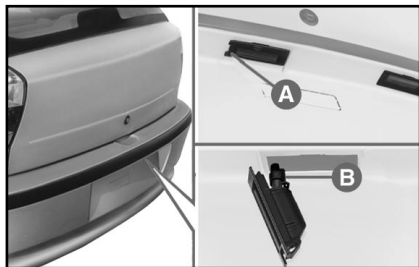

fig. 27
NUMBER PLATE LIGHT fig. 27
1) Remove the bulb holder by levering with a screwdriver in the point **A**-fig. 27.